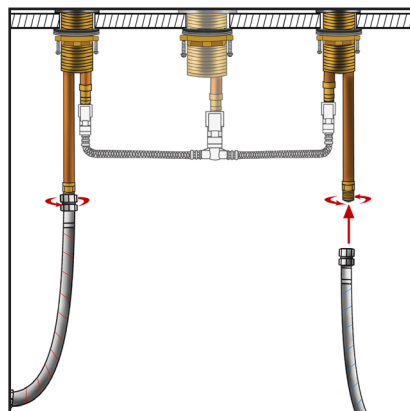

Figure 6
7. Attach the hot and cold water supply hoses to the handles by screwing the end of each hose to the hot/cold water supply pipes. Use an adjustable wrench or a pair of groove point pliers to make sure each end is tight (**Figure 6**).